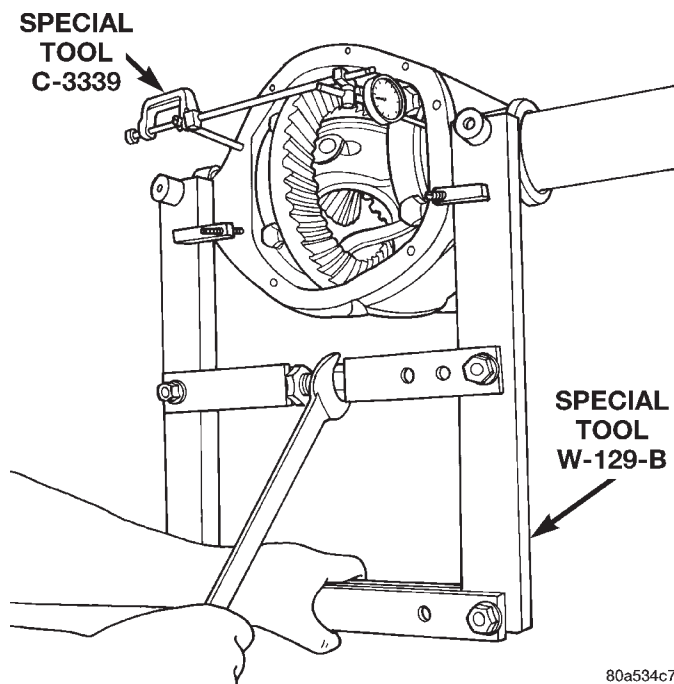
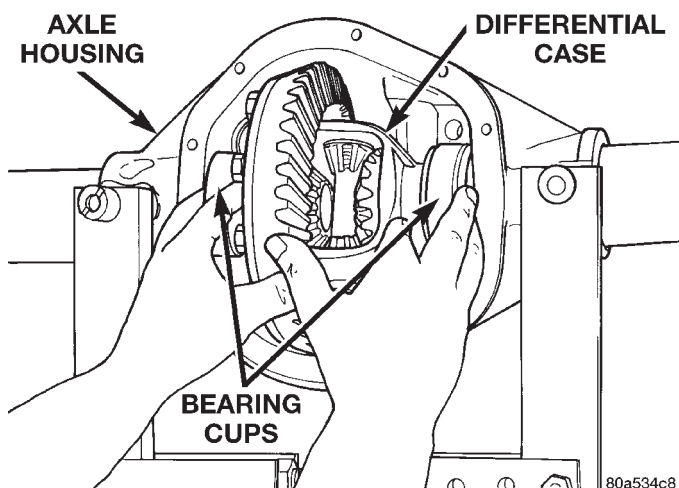
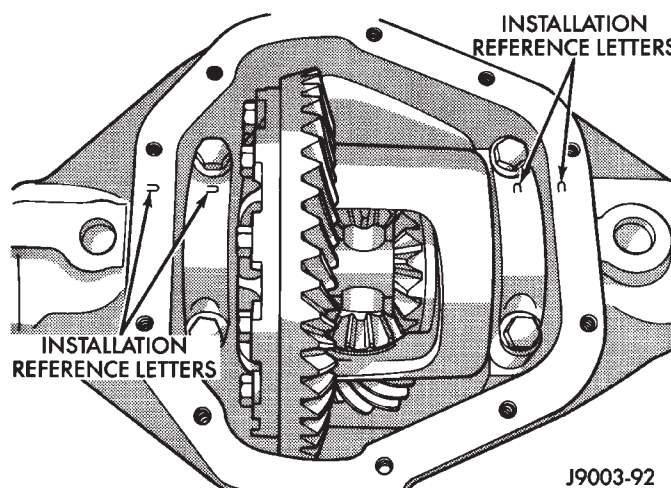

Fig. 27 Spread Axle Housing
Fig. 28 Differential Case Removal
Fig. 30 Differential Bearing Cap Reference Letters
- (9) Spread the housing enough to remove the differential case from the housing. Measure the distance with the dial indicator (Fig. 27).
- (10) Remove the dial indicator.
- (11) While holding the differential case in position, remove the differential bearing cap bolts and caps.
- (12) Remove the differential from the housing. Ensure that the differential bearing cups remain in position on the differential bearings (Fig. 28).
- (13) Mark or tag the differential bearing cups to indicate which side of the differential they were removed from.
- (14) Remove spreader from housing.
(3) Spread the housing enough to install the case in the housing. Measure the distance with the dial indicator (Fig. 27).
(4) Remove the dial indicator.
(5) Install differential case in the housing. Ensure that the differential bearing cups remain in position on the differential bearings. Tap the differential case to ensure the bearings cups are fully seated in the housing.
(6) Install the bearing caps at their original locations (Fig. 30).
(7) Loosely install differential bearing cap bolts.
(8) Remove axle housing spreader.
(9) Tighten the bearing cap bolts to 61 N·m (45 ft. lbs.) torque.
(10) Install the hub bearings and axle shafts.